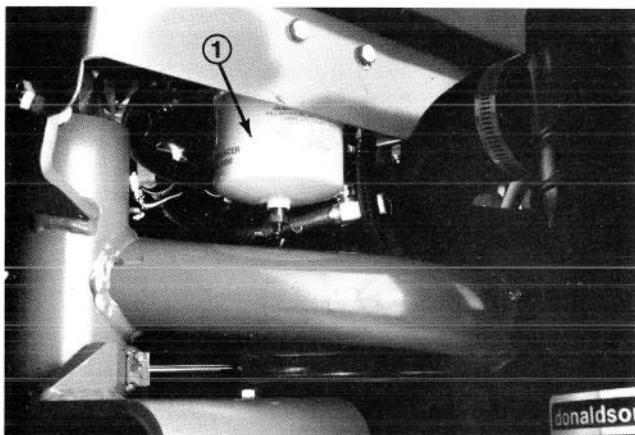

Figure 20
1. Locate fuel filter/water separator at right rear under fuel tank (Fig. 20).